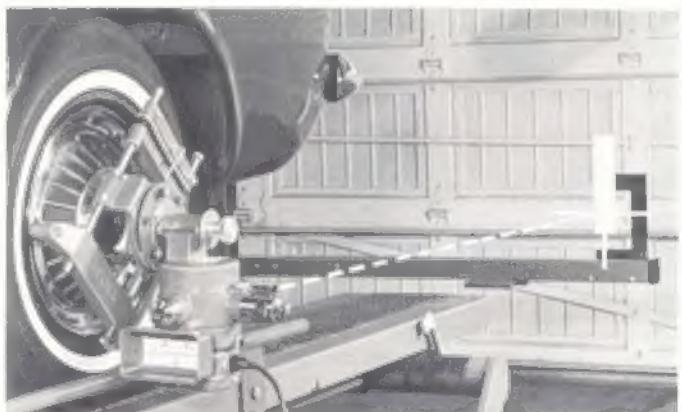

FIGURE 47
A. **Using Model L-80-3-S Rear Toe Gage (Figure 47)—**